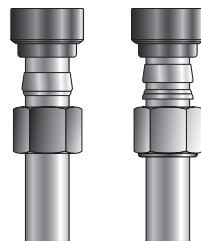
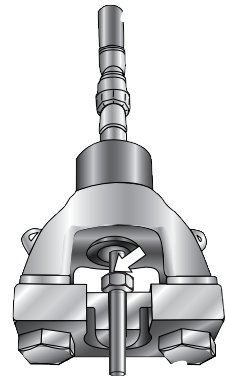

Figure 45
Figure 47
1. Assemble CPI™/A-LOK® nut, CPI™/A-LOK® Ferrule(s) and body die onto tubing as shown in Figure 45. Be sure that the tapered end of the Ferrule(s) point toward the body die.
3. Insert Tube Assembly, Figure 45 into Nut Die as shown in Figure 47.